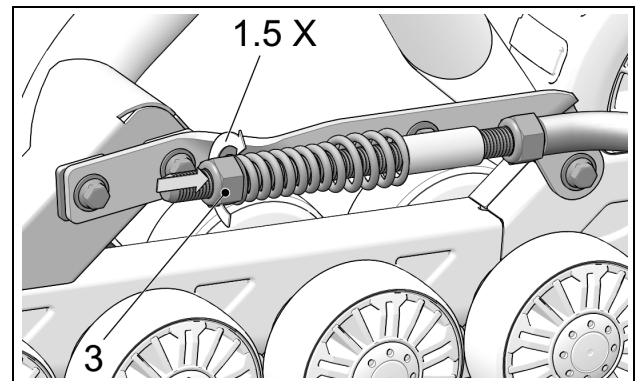

Figure 13
- Turn nut (3) until it comes in contact with the spring, then compress the spring by turning the nut 1 1/2 turns. See Figure 13.